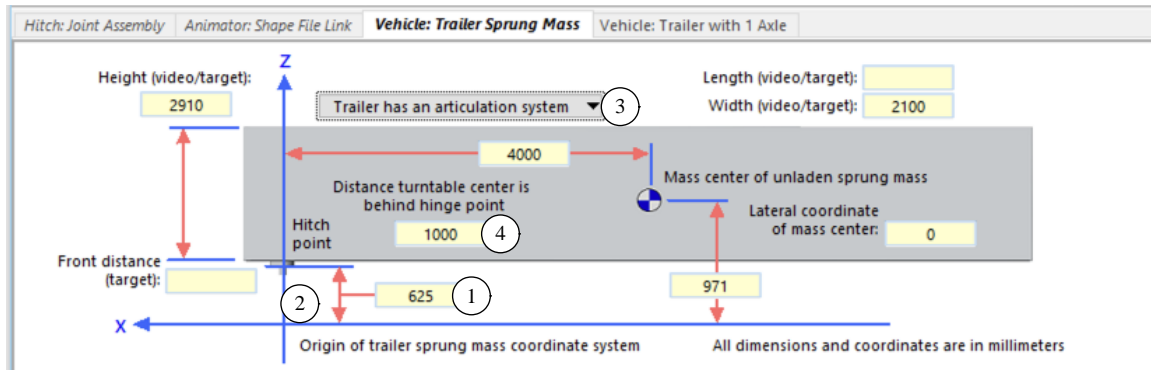

Figure 13. Use the trailer sprung-mass screen to specify an articulation system.
2. The option is set from the trailer sprung-mass screen with the same drop-down menu used to possibly specify the hinged tow bar, but in this case used to choose the articulation system (3) (Figure 13).
3. Selecting this option displays a yellow field for the distance parameter (4).